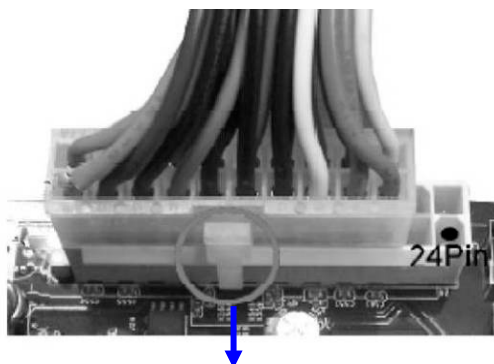

Figure1: 20-pin power plug
- ** If you are using a 20-pin power plug, please refer to Figure1 for power supply connection. Power plug form power supply and power connectors from motherboard both adopt key design to avoid mistake installation. You can insert the power plug into the connector with ease only in the right direction. If the direction is wrong it is hard to fit in and if you make the connection by force it is possible.